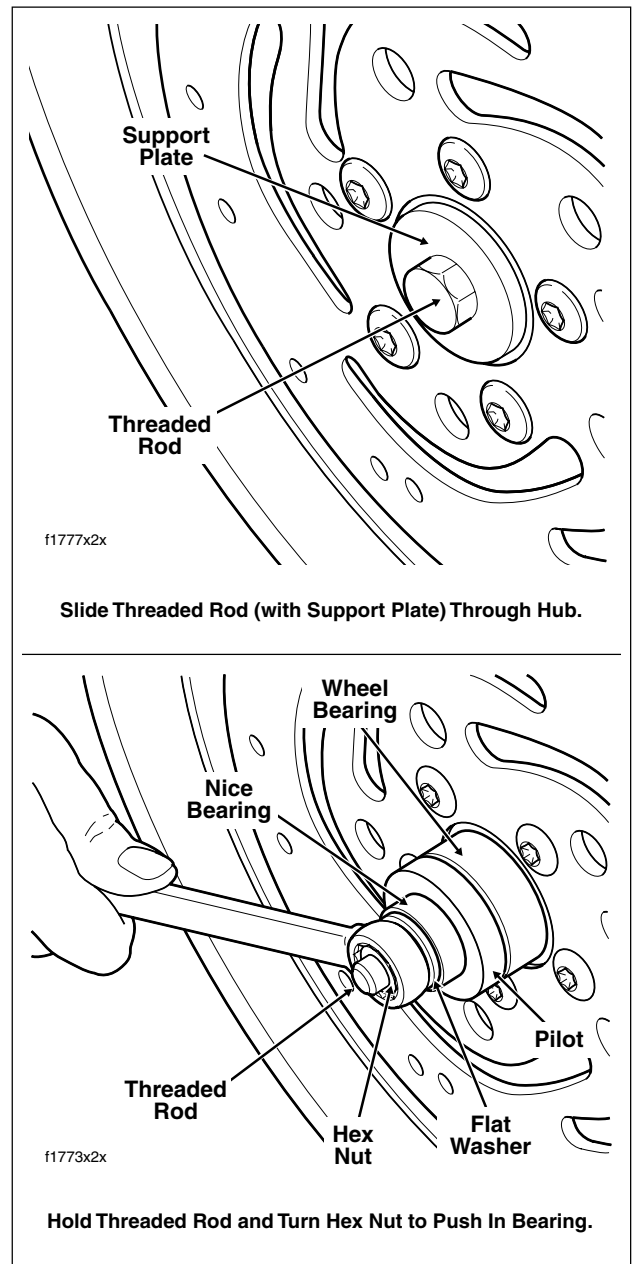

Figure 2-7. Install Sealed Wheel Bearings
- Slide support plate onto threaded rod. Slide rod through hub on the valve stem side of the wheel. See upper frame of Figure 2-7.
- f. Holding threaded rod on opposite side of wheel to prevent rotation, turn hex nut to install bearing. See lower frame of Figure 2-7. Bearing is fully seated when it makes firm contact with the counterbore.